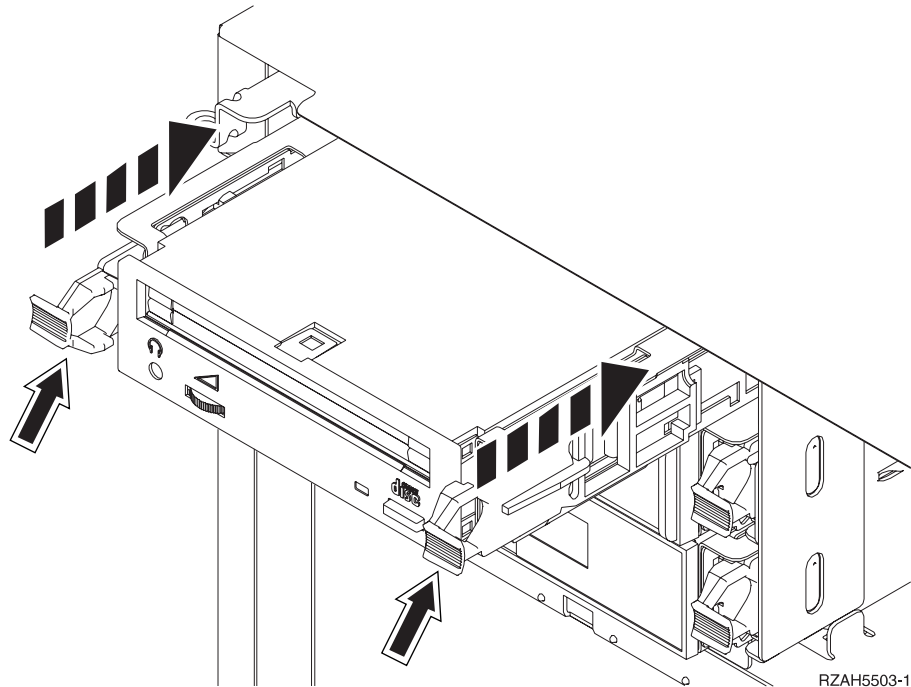

Figure 6. Installing removable media device
- \_\_\_ 4. Refer to Figure 6 on page 13 and align the device with the position where you removed the filler bezel.